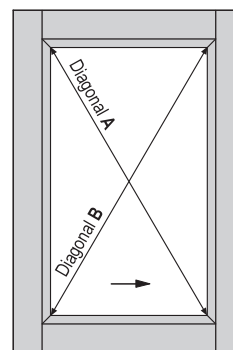

fig. 1
- 1) Check the diagonal dimensions (fig. 1) to make sure that the door rails and stiles and the frame jambs are square.